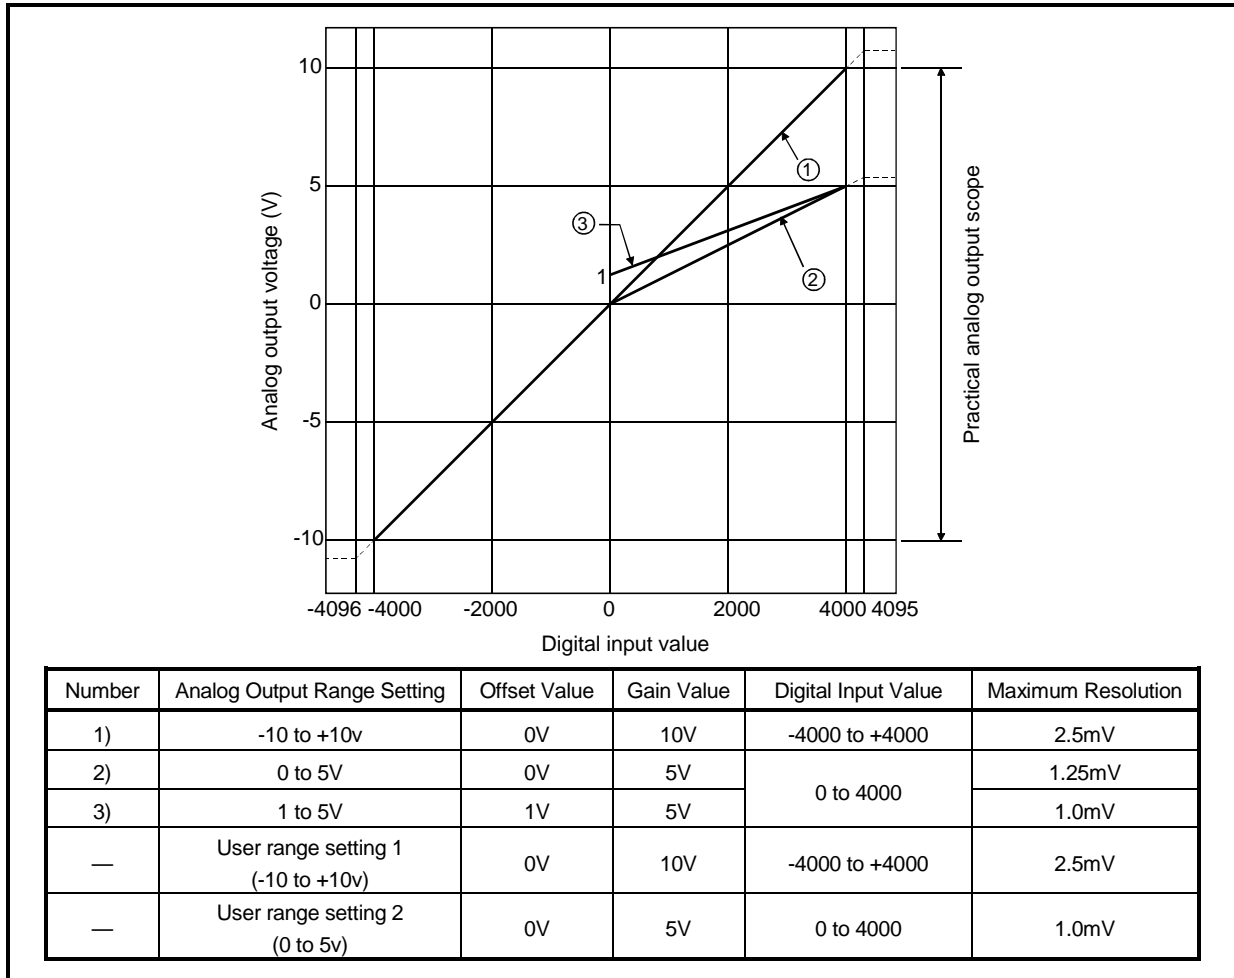

Fig. 3.1 Voltage Output Characteristic
<p>(1) Within the digital input and analog output scopes of each output range, the maximum resolution and accuracy are within the performance specification range. Outside those scopes, however, they may not fall within the performance specification range. (Avoid using the dotted line part in Fig. 3.1.)</p> <p>(2) Set the offset and gain values of the user range setting within the range satisfying the following conditions.</p> <p>(a) Setting range when user range setting 1 is selected: -10 to +10V</p> <p>(b) Setting range when user range setting 2 is selected: 0 to 5V</p> <p>(c) (Gain value) &gt; (Offset value)</p> <p>If you attempt to make setting outside the setting range of (a) or (b), the "RUN" LED flickers at 0.5s intervals. Set the values within the setting range.</p> <p>If you attempt to make setting outside the setting range of (c), the "RUN" LED flickers at 0.5s intervals. Make setting again.</p>